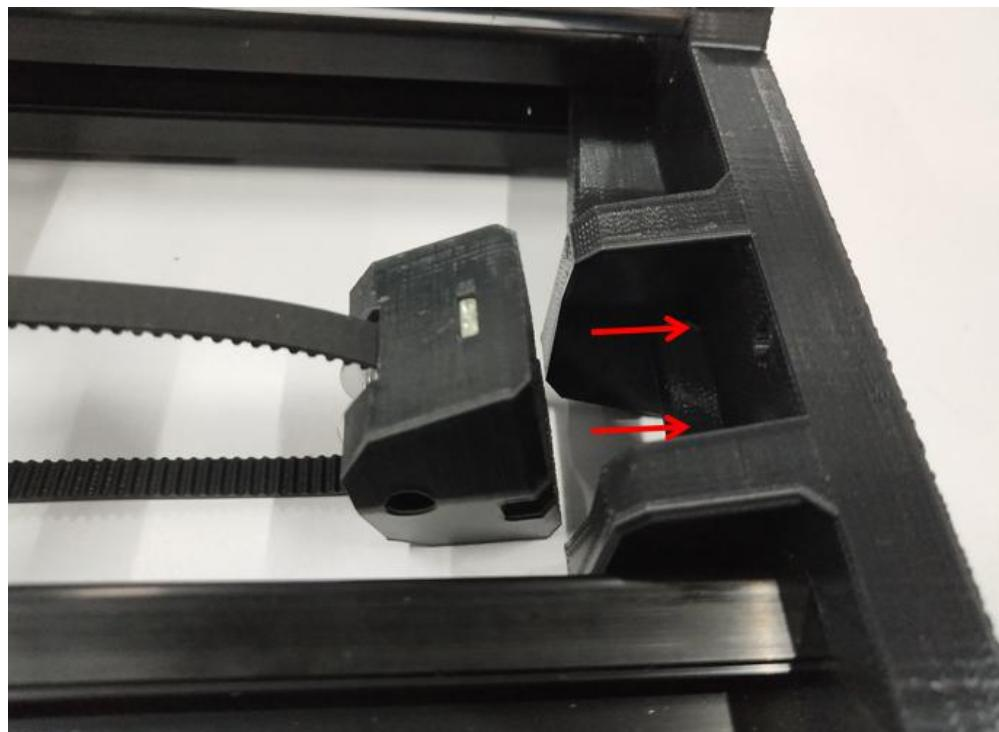
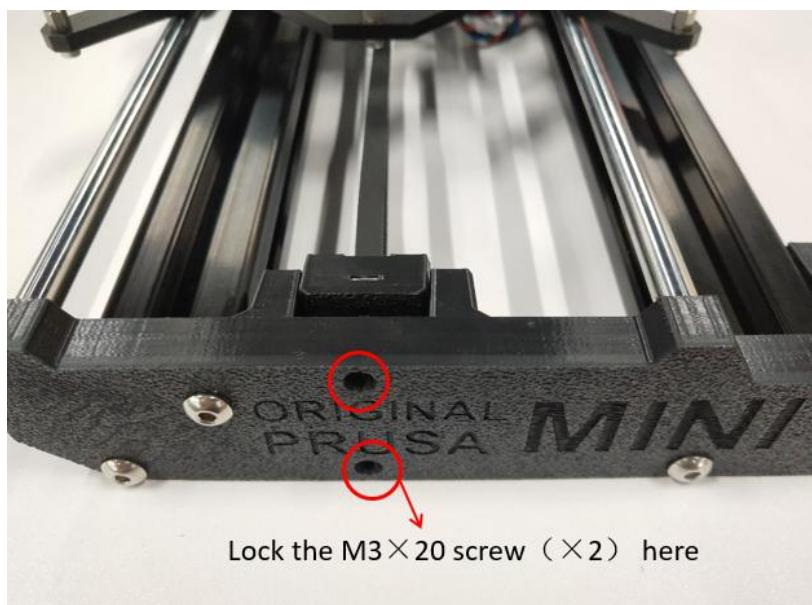

Figure 1.11.8
Figure 1.11.10
**Step 1-11-6:** As shown in Figure 1.11.8, tighten the MINI-y-idler equipped with the Y-axis belt into the slot on the MINI-y-plate-front, and use 2pcs M3×20 The screws lock it which used to adjust the tightness of the Y-axis belt, as shown in Figure 1.11.10.